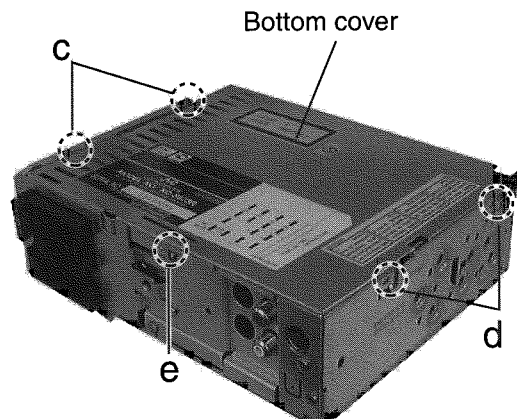

Fig. 4
### ■ Removing the bottom cover (See Fig.4)
- The bottom cover (Refer to Fig.4)